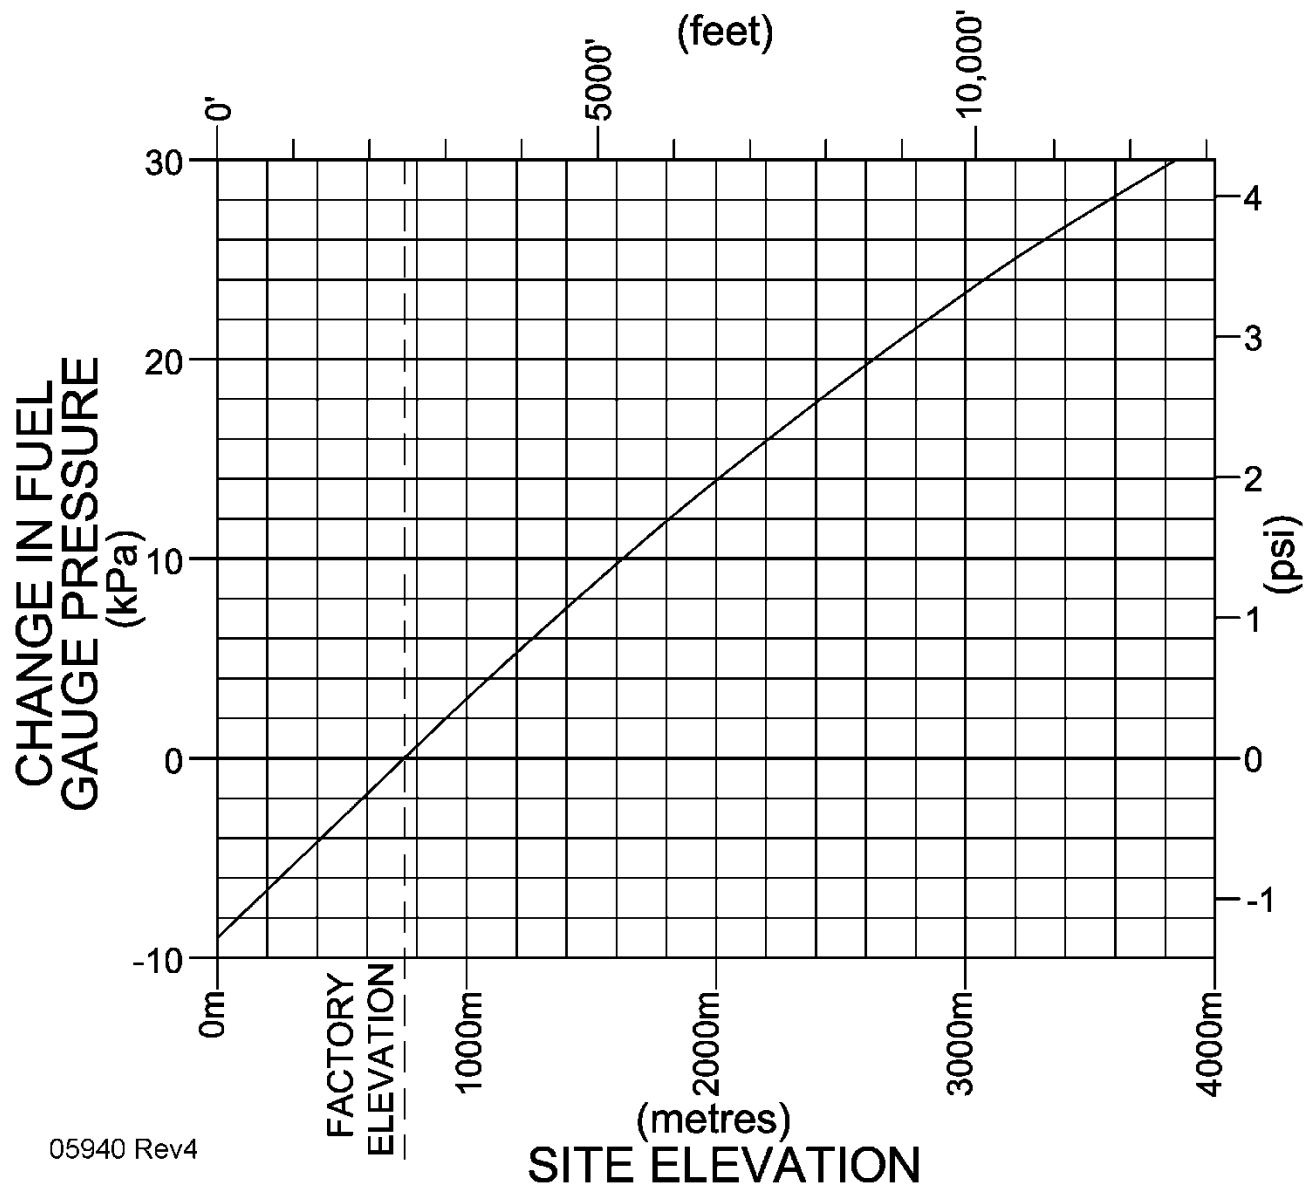

Figure 9 Change in Fuel Pressure Versus Elevation
- 2.3.2 If required, correct the factory set fuel pressure for the elevation as per Figure 9, **Change in Fuel Pressure Versus Elevation**.